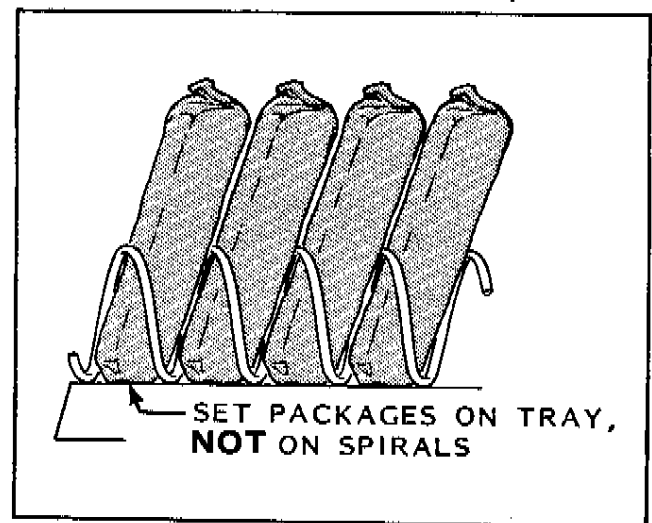

Figure 2-1. Loading the Spirals
1. With a tray fully extended, load the spirals consecutively from the front to the back of the tray (see Figure 2-1). The trays tilt down for loading convenience. DO NOT force a product between the spirals. DO NOT use a spiral with too great of a pitch.